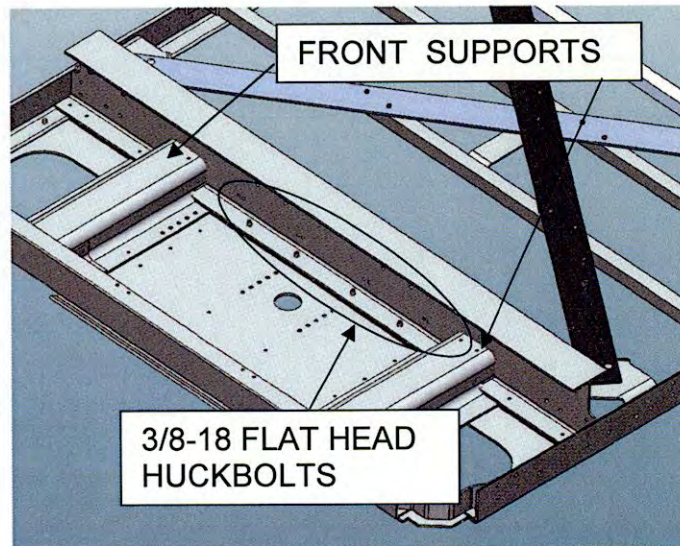

Figure 10
3. While ensuring that the bolts and reinforcements placed on the front supports do not fall off, place the front supports on top of the bottom plate as shown below in Figure 10. Notice how they are towards the outside of the beam.
5. Connect the beam to the bottom plate with eight 3/8-18 flat head Huckbolts circled in Figure 10 on the previous page.